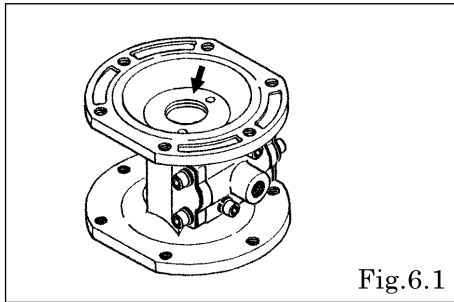

Fig.6.1
- Remove the snap ring using the snap ring pliers, and remove the guide bushing, spacer and center rod assembly. [Fig.6.1]